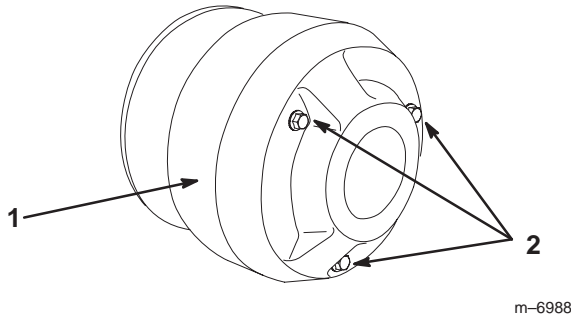

Figure 30
3. Remove the 3 bolts securing the cover to the clutch and remove the cover (Fig. 30).